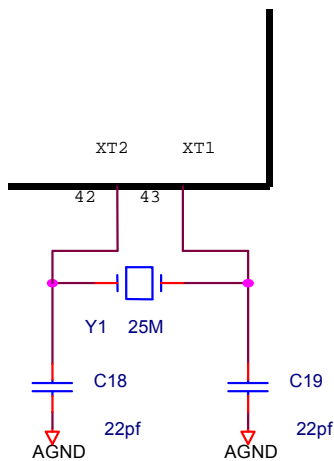

Figure 6
- A crystal can be used to generate the 25MHz reference clock instead of an oscillator. The crystal must be a fundamental type, series-resonant, connect to XT1 and XT2, and shunt each crystal lead to ground with a 22pF capacitor as shown in Figure 6.